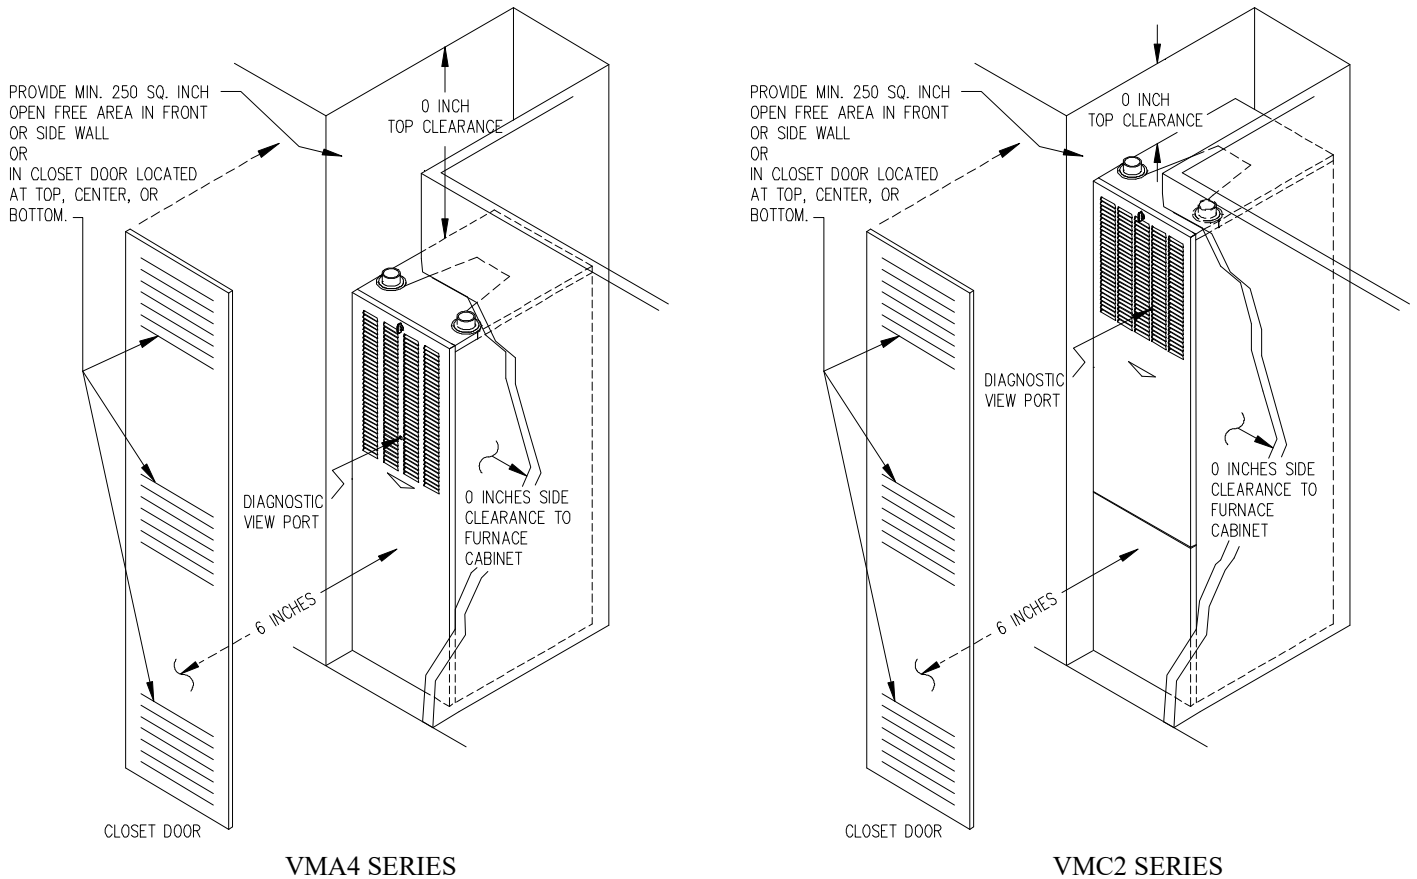

Figure 5.
* See pages 17, 18 & Figure 5 for explanation of clearances.
1. The return air opening into the closet is to have a **minimum** free area of 250 sq. in. (see Figure 5).
- a. The return air opening may be located in the top, center or (ideally) bottom of the closet door or side wall for clearances of 6" or more (see Figure 5).